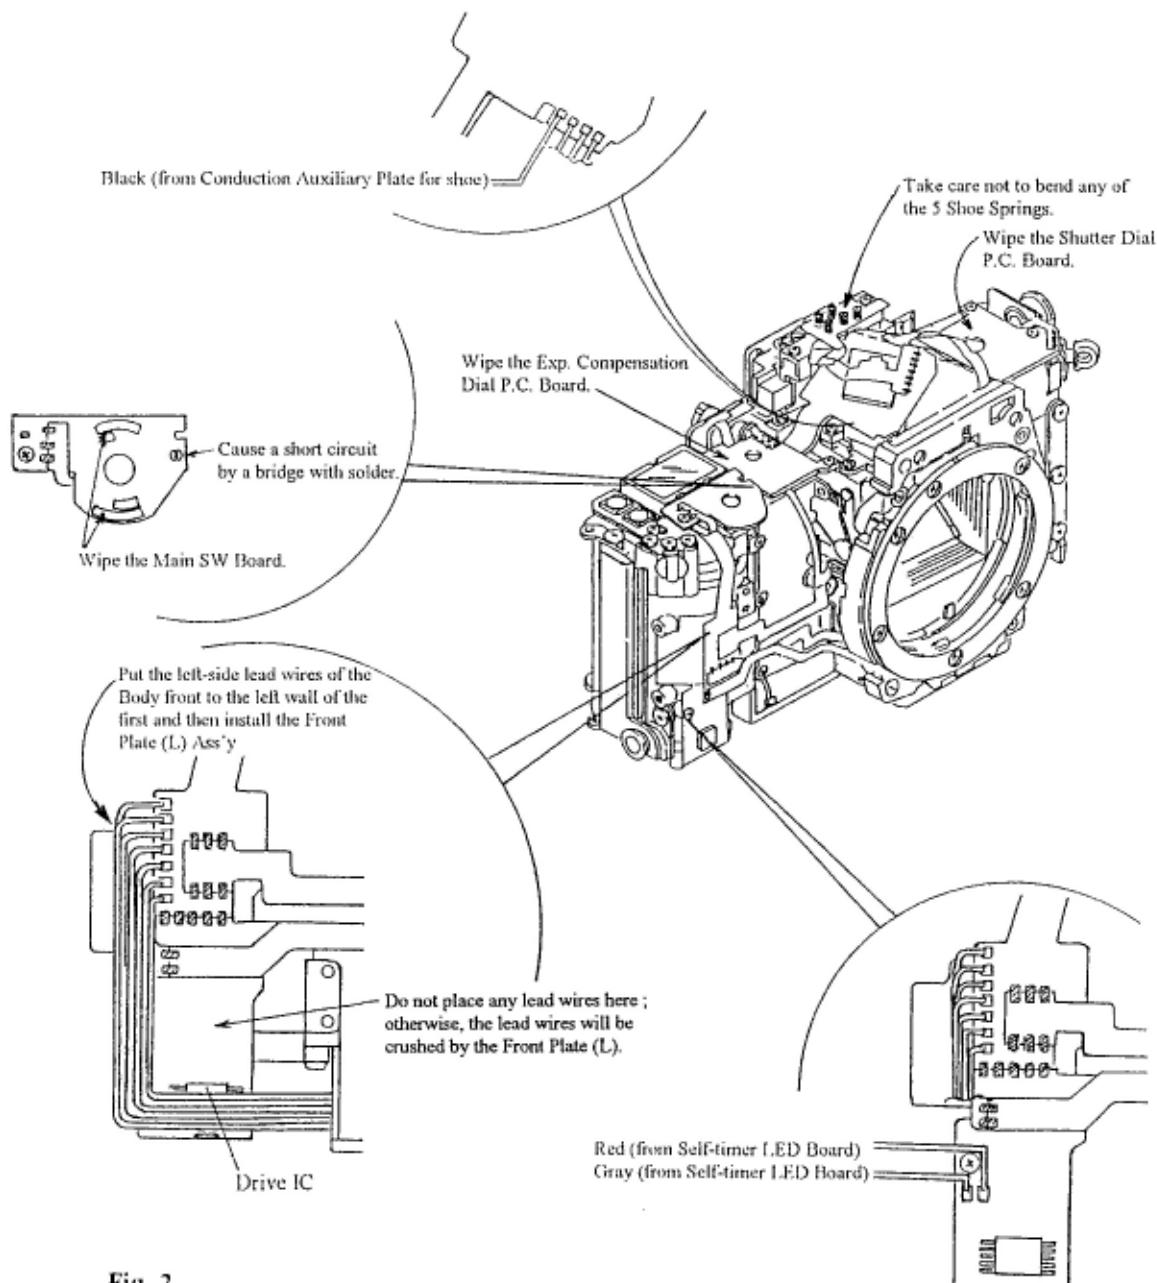

Fig. 2
- 2) Unsolder the Black lead wire (from the Conduction Auxiliary Plate for the shoe) on the Main FPC. (See Fig. 2).
- When the Top Cover Ass'y has been removed, take care not to bend or deform the Shoe Spring on the Main FPC Ass'y. (See Fig. 2)
- The Front Plate Rubber (R) and Front Plate Rubber (L) are fixed to the Body with the Front Plate Rubber Tape (double-stick tape).
- Once the Front Plate Rubber (R) and Front Plate Rubber (L) have been peeled off, the adhesive strength of the Front Plate Rubber Tape weakens. Be sure to replace the Front Plate Rubber Tape with new one.
- 4) Remove the Front Plate (L) Setscrews (69113576) × 4 and take off the Front Plate (L) (1AWB5300), and unsolder the Red and Gray lead wires (from Self-timer LED Board) on the Main FPC. (See Fig. 2)
(See Fig. 2)
- a) To operate the camera with the Top Cover Ass'y removed, cause a short circuit by a bridge with solder on the pattern of the Main SW Board as shown in Fig. 2.
- a) As shown in Fig. 2, put the left-side lead wires of the Body front to the left and dress them over the Drive IC first and then install the Front Plate (L) Ass'y (1AWB5300).